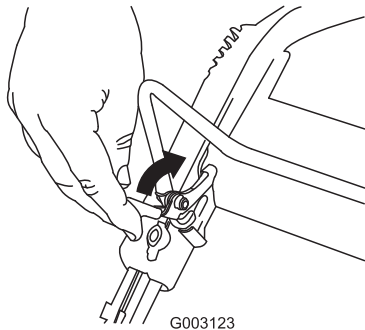

Figure 20
1. Pull the control-bar lock back (Figure 20).